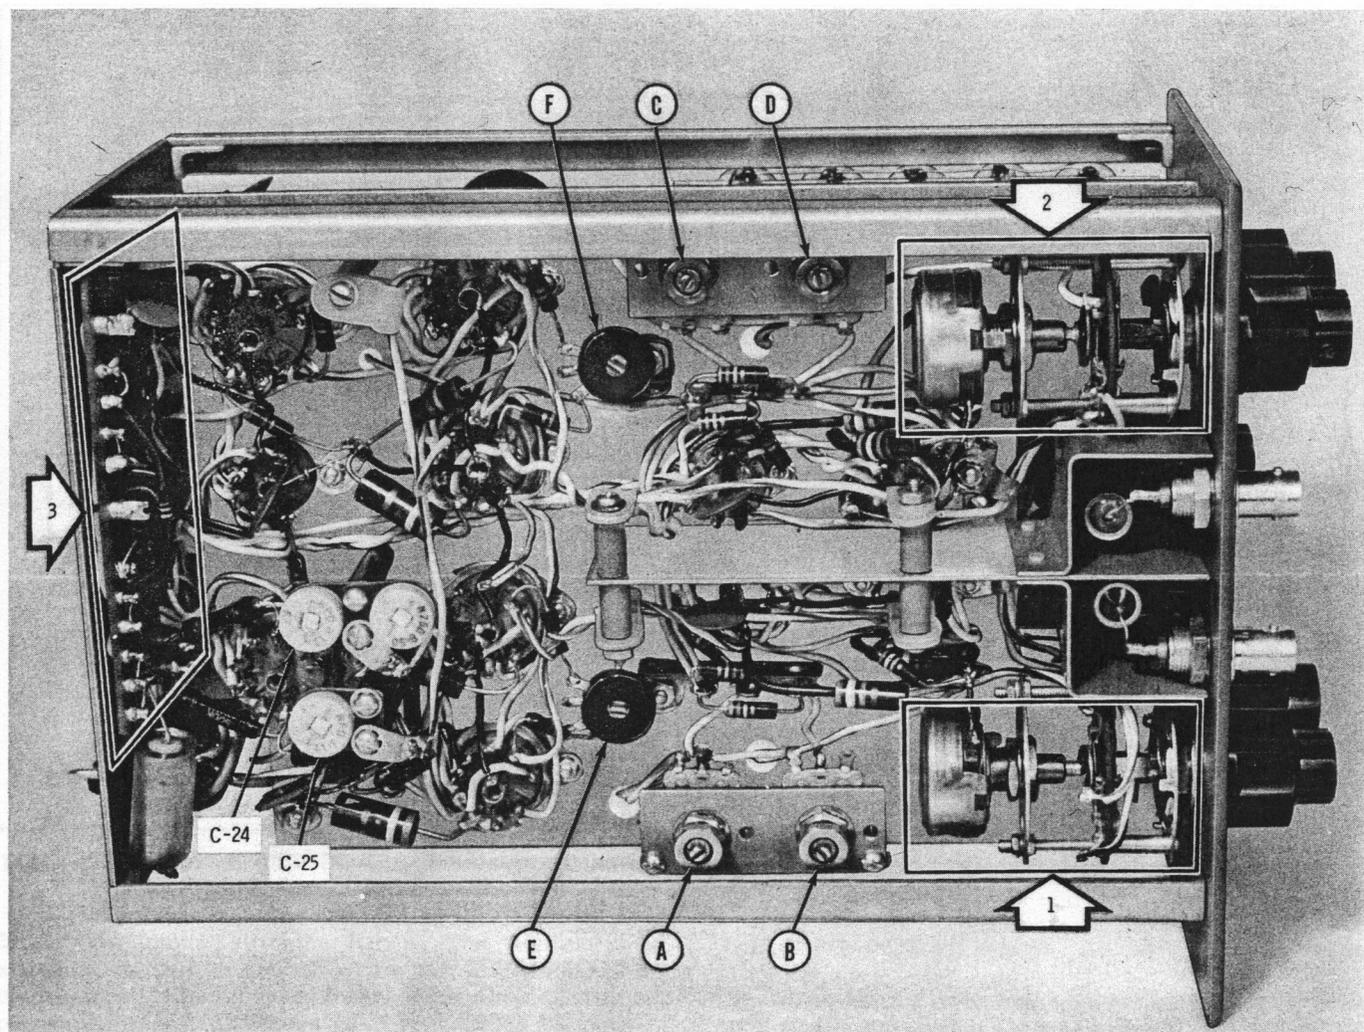

Figure 24. Left-Hand Side View, WB/DI/11 or WB/DI/11-D Dual Trace Preamplifier
The DC BALANCE control, R17, equalizes the DC level at the two cathodes so that any DC level appearing at the cathode will not shift the trace on the MEMOTRON tube screen when the VARIABLE control, R14, is changed. When R14 is in the maximum clockwise position, it has shorted out the X10 gain adjust potentiometer, R18 (see "C", figure 24). Therefore, resistance in the cathode circuit is at a minimum, and maximum signal will be observed on the MEMOTRON tube screen.
The signal output of the paraphase amplifier is DC coupled to the switched amplifiers, VA3 and VA4 (VB3 and VB4 for B channel). Trace zero adjustment potentiometer, R80 (channel A; see "F", figure 24) or R81 (channel B; see "E", figure 24) in the grid circuit of these amplifiers enables locating the vertical position controls in the center of their mechanical range, and electrically positioning trace in center of the MEMOTRON tube screen. The signal is then DC coupled to a cathode follower. The cathode follower V5 drives the main vertical amplifiers in the MEMO-SCOPE oscilloscope.
d. With MODE switch on channel A, adjust R80 (see "F", figure 24) so that the trace appears on the center of the MEMOTRON tube screen.
e. Move MODE switch to channel B, and adjust R81 (see "E", figure 24) so that trace is in center of screen.
- e. Observe displayed square wave; adjust C25 (see figure 24) for a flat top on square wave, with minimum overshoot on top and bottom.
KEY TO FIGURE 24:
KEY TO FIGURE 24 (Continued):
d. Adjust C36 (see figure 24) to minimize transients and overshoot. The overall remaining signal level (noise) should not be greater than one-half of a division on the graduated reticle.
Connect CALOUT to both channel A and B inputs. Set CALIB VOLTS to 0.1 volt output. Turn SWITCHING MODE switch to channel A. Adjust R16 (see "D", figure 24) for a trace deflection of ten divisions. The output of either pin 8 or pin 3 of the dual trace cathode follower, V5, should be a change of 4.5 volts, or a change of 9 volts between these two pins. If deviation is greater than $\pm 5\%$, check that the main vertical amplifier in the MEMO-SCOPE oscilloscope has been adjusted properly. (Refer to paragraph 4-11 under TROUBLE: Incorrect Vertical Amplifier Sensitivity Deflection.)
Repeat this check for channel B, except adjust R44 (see "B", figure 24).
On channel A, adjust R18 (see "C", figure 24) for ten divisions deflection; on channel B, adjust R42 (see "A", figure 24) for ten divisions deflection.